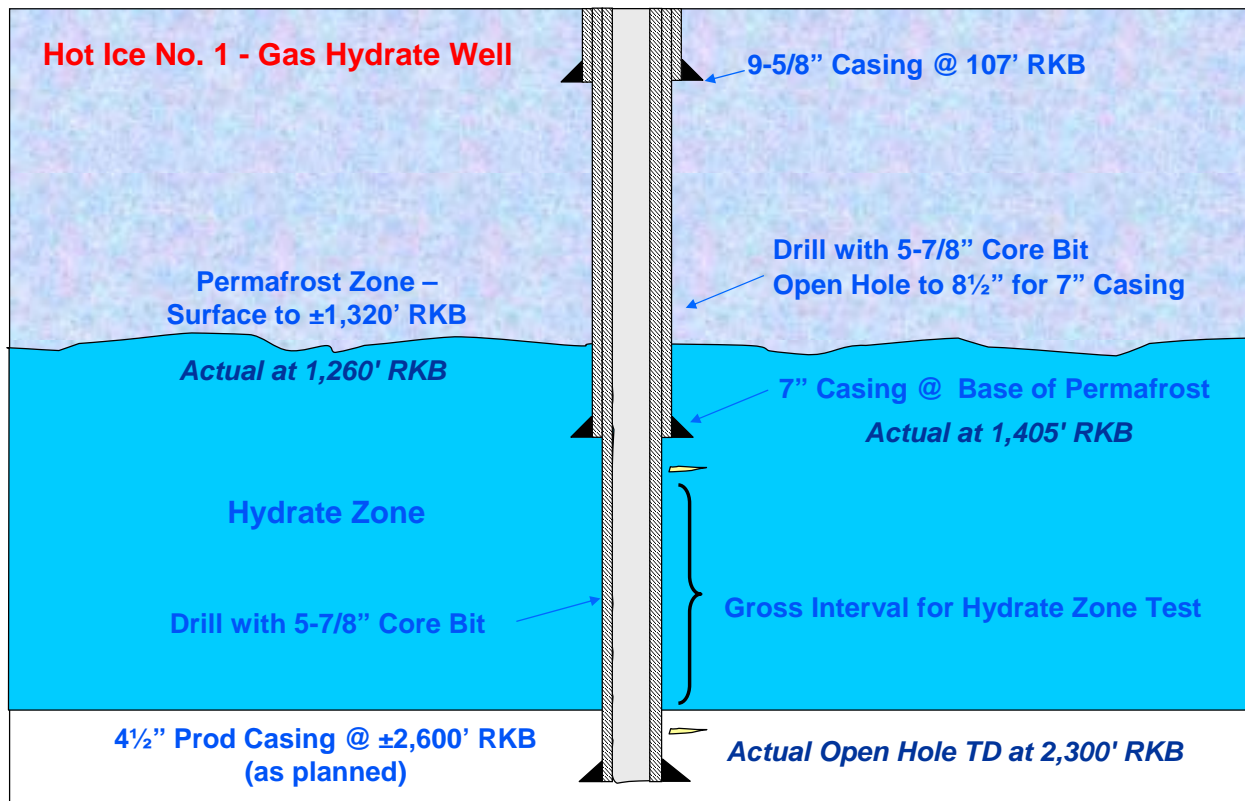

Figure 9. Wellbore Summary
**Figure 9** shows planned and actual wellbore construction sketches. The 7-in. casing was set slightly deeper than planned, based on actual core recovery and field determination of the base of the permafrost (1400 ft versus 1260 ft). Well operations were suspended in 2003 after the 7-in. casing was set and cemented. Also shown in the figure is that final total depth was reached at 2300 ft during 2004 operations, based on site-specific estimate of the base of the hydrate stability zone compared to the pre-spud estimate of 2600 ft. The wellbore did not intersect any hydrates; therefore, no tests were conducted.